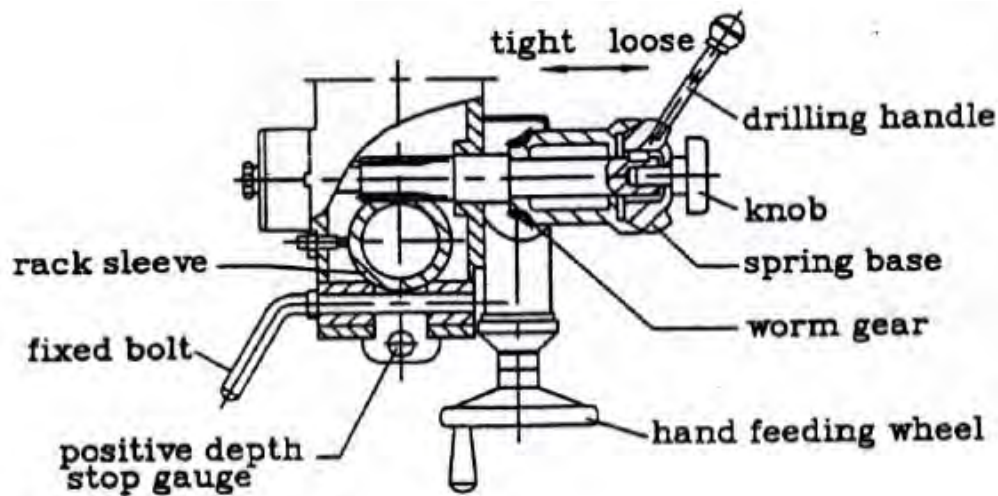

Fig.3
4. Preparing for drilling (see Fig.3).
5. Preparing for milling (see FIG.3)